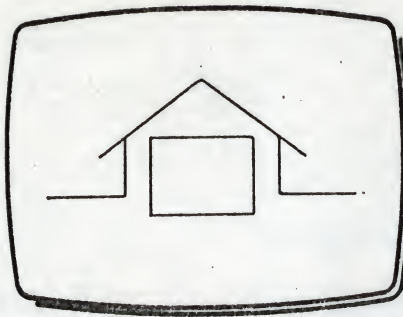

Fig 3
- 9 Press and release T to draw an enlarged view of the window as in Fig 3.